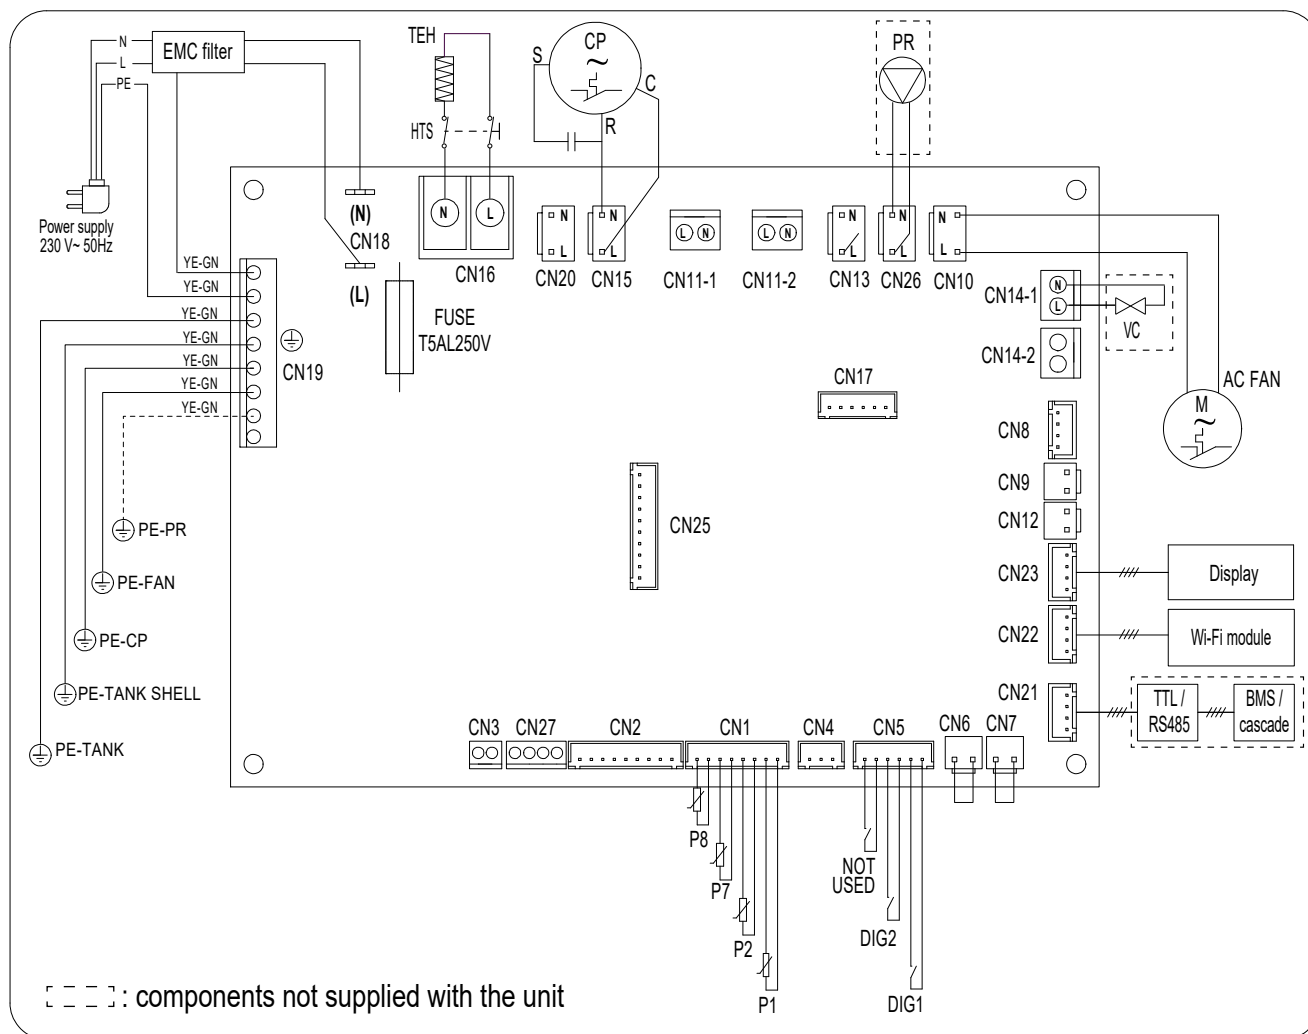

fig. 69 - Wiring diagram of the equipment
- 1) The recirculation pump (part.16) must be connected to terminal CN26 of the master motherboard (ref. "fig. 69 - Wiring diagram of the equipment" on page 118).
- 2) Fit a normally open solenoid valve (part. 19) for each unit in the cascade. The valve must be connected to terminal CN14-1 (ref. "fig. 69 - Wiring diagram of the equipment" on page 118) of the mother board of each unit.
- 2) Fit a normally open solenoid valve (part. 19) for each unit in the cascade. The valve must be connected to terminal CN14-1 (ref. "fig. 69 - Wiring diagram of the equipment" on page 1184) of the mother board of each unit.